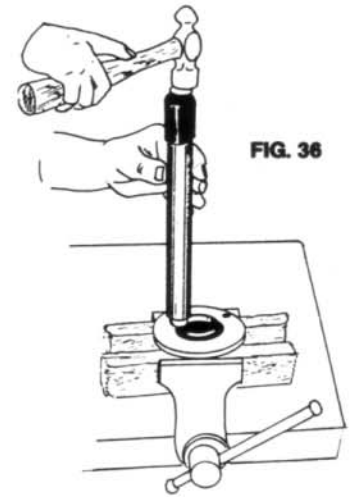

FIG. 36
- B. Set the cup 1/4 to 1/3 of the way into housing using the **LONG REACH DRIVING TOOL**. (Fig. 36)